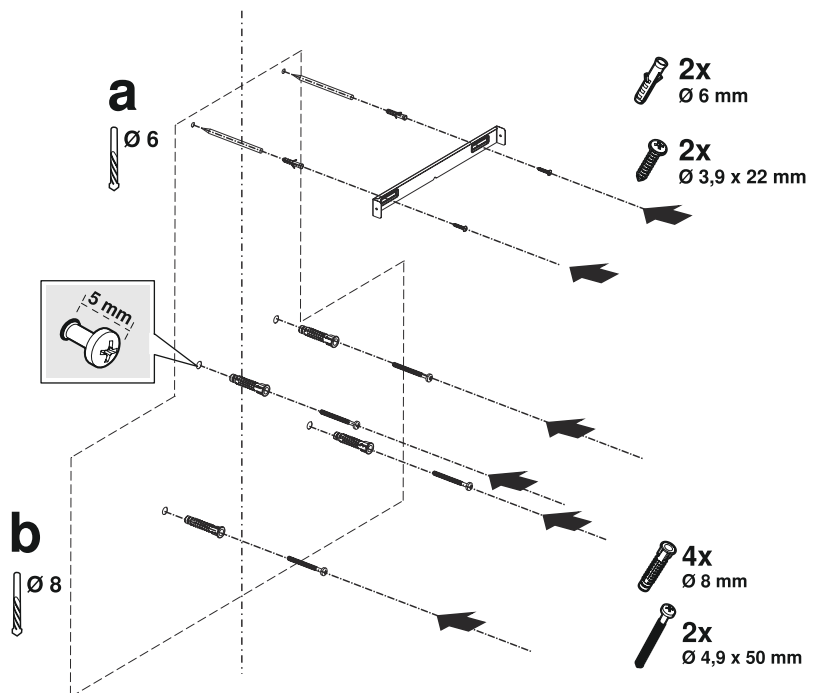

Fig. 12
1. ➤ Draw a mid location line from the ceiling perpendicular to the lower edge of the hood (Fig. 12).
2. ➤ There is a tab in the middle of the flue connection plate. Place the middle point of this tab on the line that is drawn perpendicular to the wall. Align horizontally and mark the holes where the connection plate will be mounted via a pen (Fig. 12/a).
Drill the marked points with  $\varnothing 6\text{mm}$  drill and insert 2x $\varnothing 6\text{mm}$  plastic dowels in the drilled holes (Fig. 12/a).
Fix the flue connection plate to the wall with 3,9x22 screws (Fig. 12/a).
3. ➤ To drill the suspension holes of the flue, place the mounting template on the surface where the appliance will be mounted on and mark the mounting holes (Fig. 12/b).
4. ➤ Drill the suspension holes with  $\varnothing 8\text{mm}$  drill and place the dowels (Fig. 12/b).
Place 2x4.950 suspension screw with a clearance of 5 mm between the screw head and the wall (Fig. 12/b).
- The cooker hood is set in the midst, and then the flue connecting plate is directly affixed to the wall, under the cover or points E and F are marked after performing a measurement (Fig. 12)
- Drill points E and F with Ø6mm drill bit, and insert Ø6mm and plastic dowels. Insert the flue connection plate with 3,9x22 screws (Fig. 12).